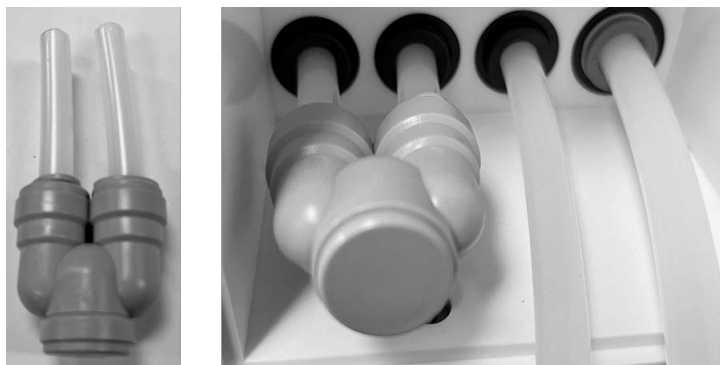

Figure 27. Dispenser Bypass installed in Aquanex Main Unit
Dispenser ports come with dispenser bypass accessories installed (see **Figure 27**). These must remain assembled if not using a dispenser on that side of the unit to prevent water leaks.
- b. Remove the selected Dispenser Bypass (see **Figure 27**).